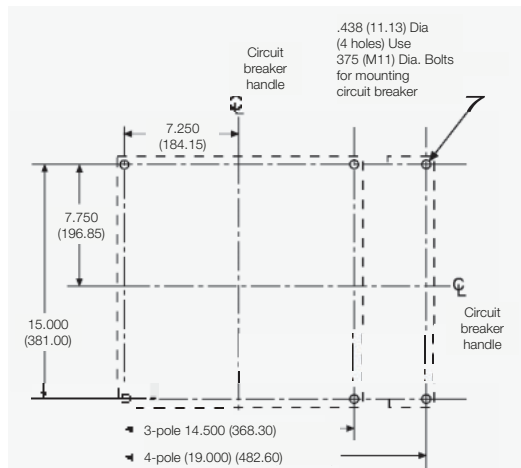
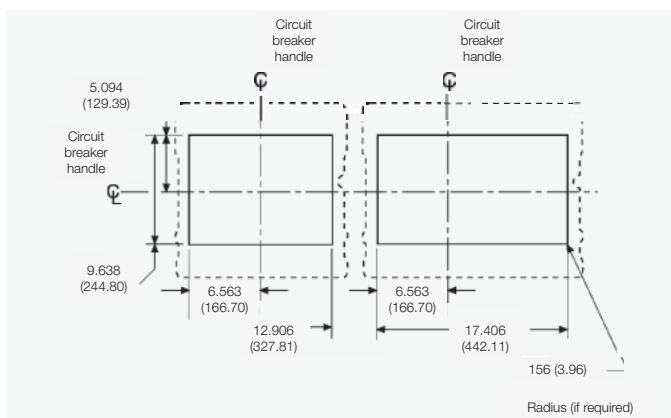

Figure 4: circuit breaker mounting bolt drilling plans
Figure 5: circuit breaker escutcheon dimensions for 4-pole circuit breakers
- a. For individual surface mounting, drill mounting panel using the drilling plan shown in Figure 4. For dead-front cover applications, cut out cover to correct escutcheon dimensions, see Figure 5.